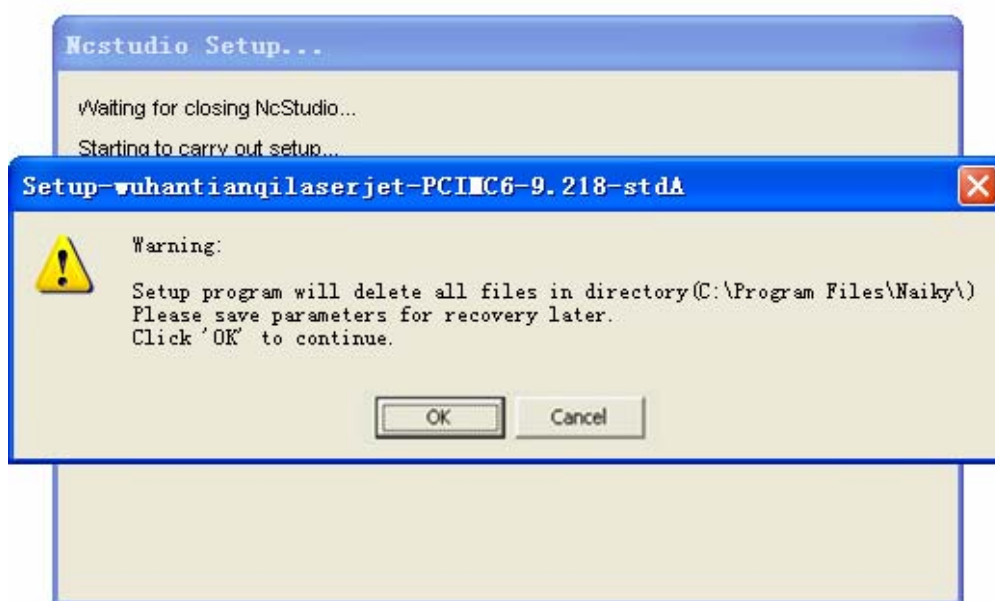

Fig. 2-3 Remind to save parameters before installation
- 3) Click [Yes (Y)]. In order to avoid disturbance, the system will ask the user to save parameters and delete the old version before going on further installation. The prompt to save parameters before installation is as Fig. 2-3.